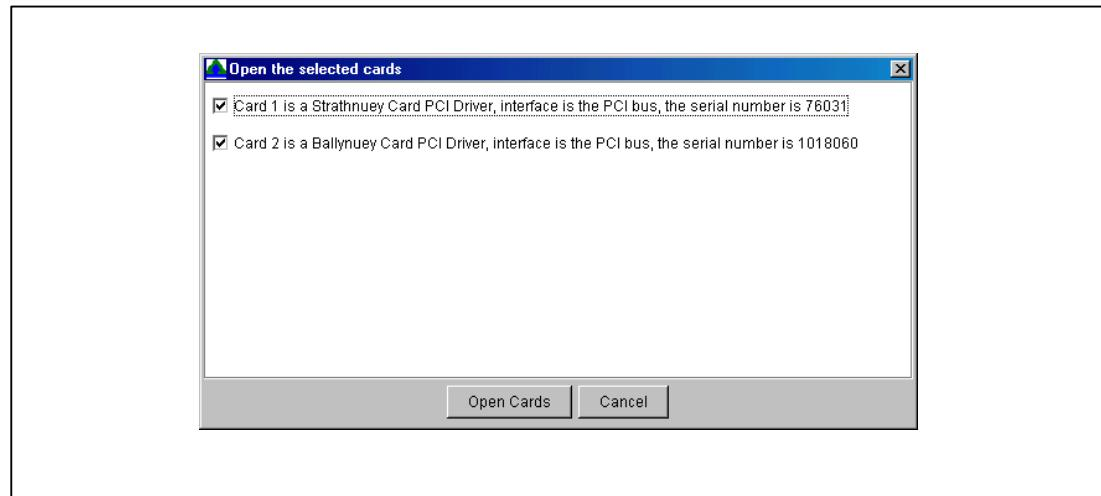
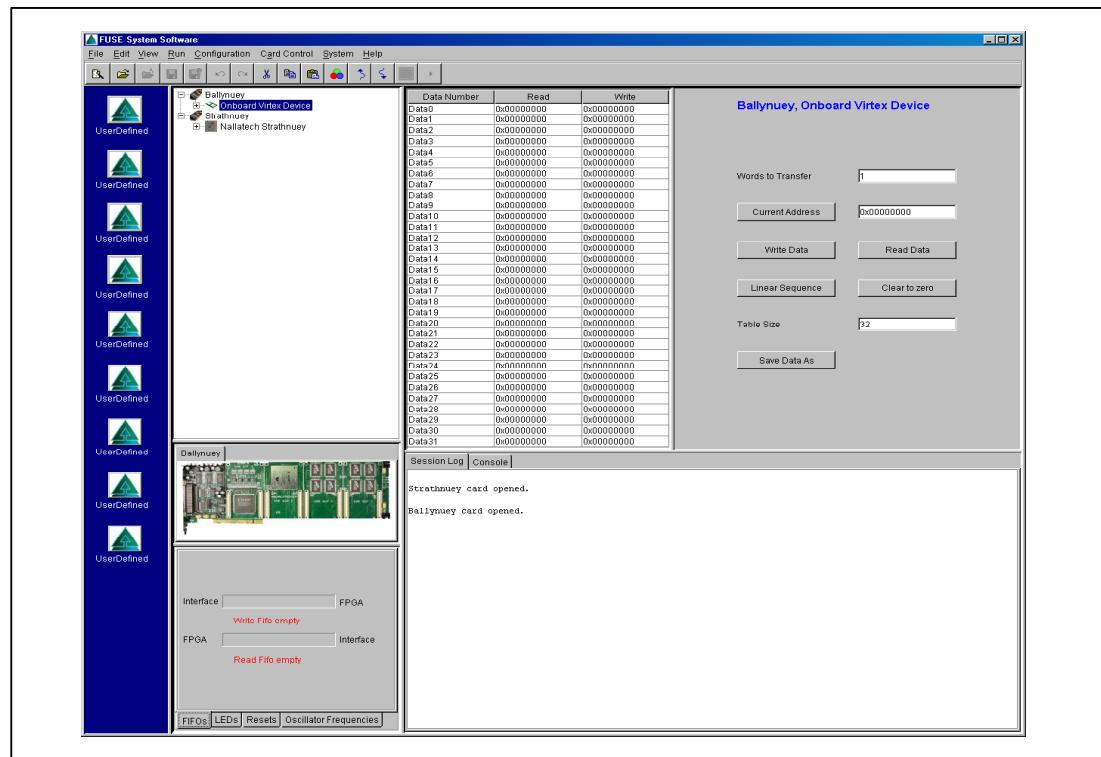

Figure 5: Dialogue box to open cards
Figure 6: GUI showing two cards opened
6.  When **Locate Cards** is pressed another dialogue box is displayed showing the cards found. This is shown below in Figure 5:
7.  Figure 5 shows that a Strathnuey and a Ballynuey card were found. To open the cards, ensure the check box of the desired card is ticked and then click on the **Open Cards** button. Both cards are now open which is shown in the tree display in Figure 6: